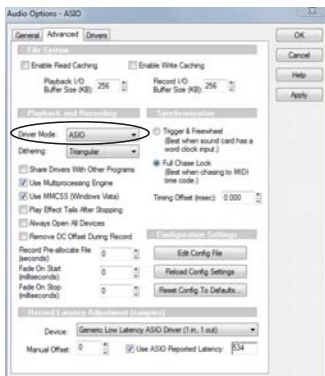

Figure 6-6: Enabling the ASIO driver in SONAR.
- 3 Choose *ASIO* from the Driver Mode menu, as shown in Figure 6-6.
To activate the MicroBook Windows multimedia driver in SONAR choose *WDM/KS* instead of *ASIO* from the Driver Mode menu, as shown in Figure 6-6.